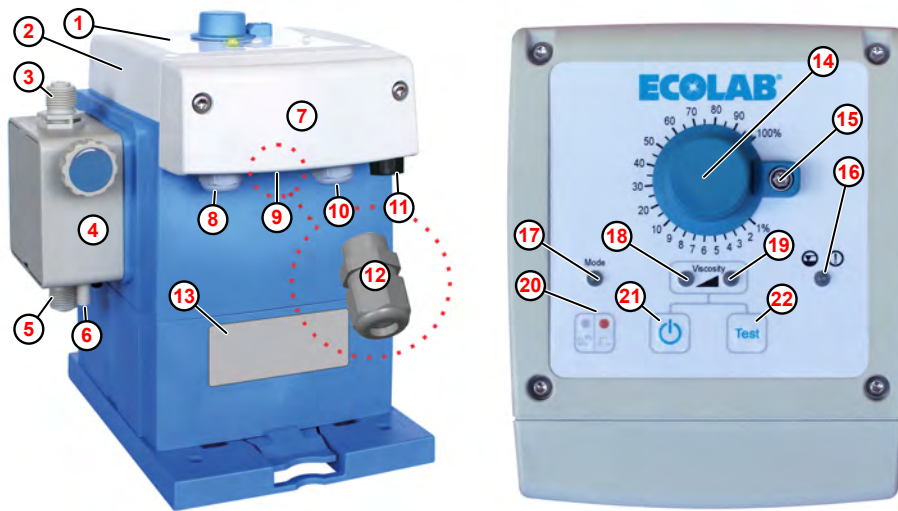

Fig. 1: Structure and controls 'EcoUp'
To connect the alarm signal cable, the pump is delivered with a compatible M12 x 1.5 cable gland ( Fig. 1 , ⑫ ).